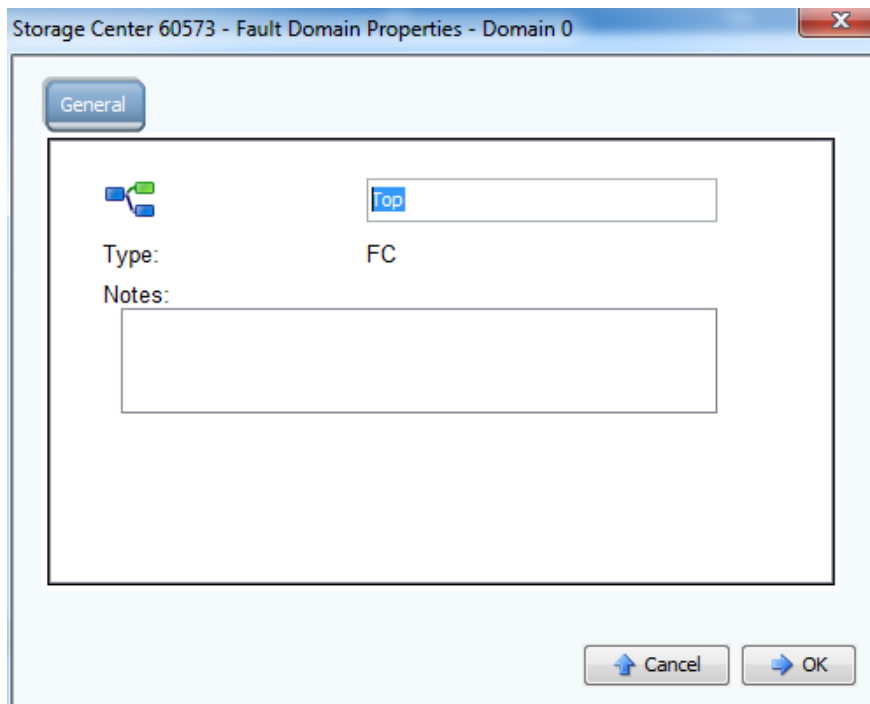

Figure 23. Change the fault domain name
6. To change the **Domain 0** name to **Top**, type **Top** and then click **OK**, as shown in Figure 23.